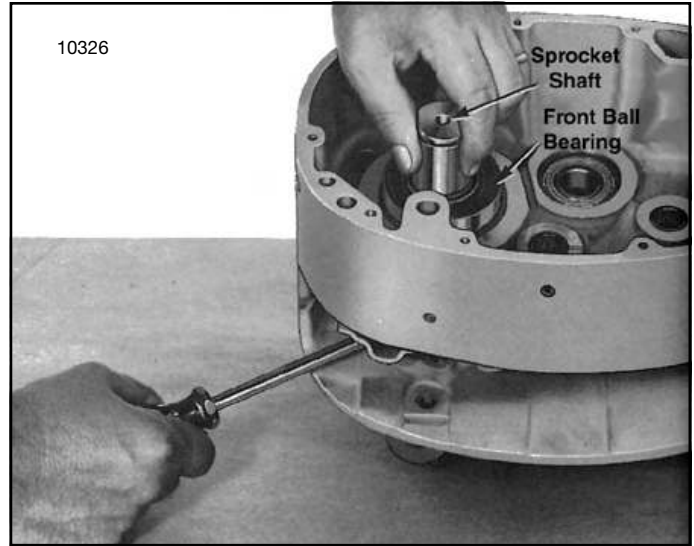

Figure 7-14. Removing Sprocket Shaft and Front Bearing
(4) Remove sprocket shaft and front ball bearings assembly from frame by lifting up on end of shaft while prying up on sprocket as illustrated in figure 7-14. The chain guide will need to be repositioned in frame as sprocket shaft is raised to allow the sprocket to pass through hole of guide (fig. 7-15).